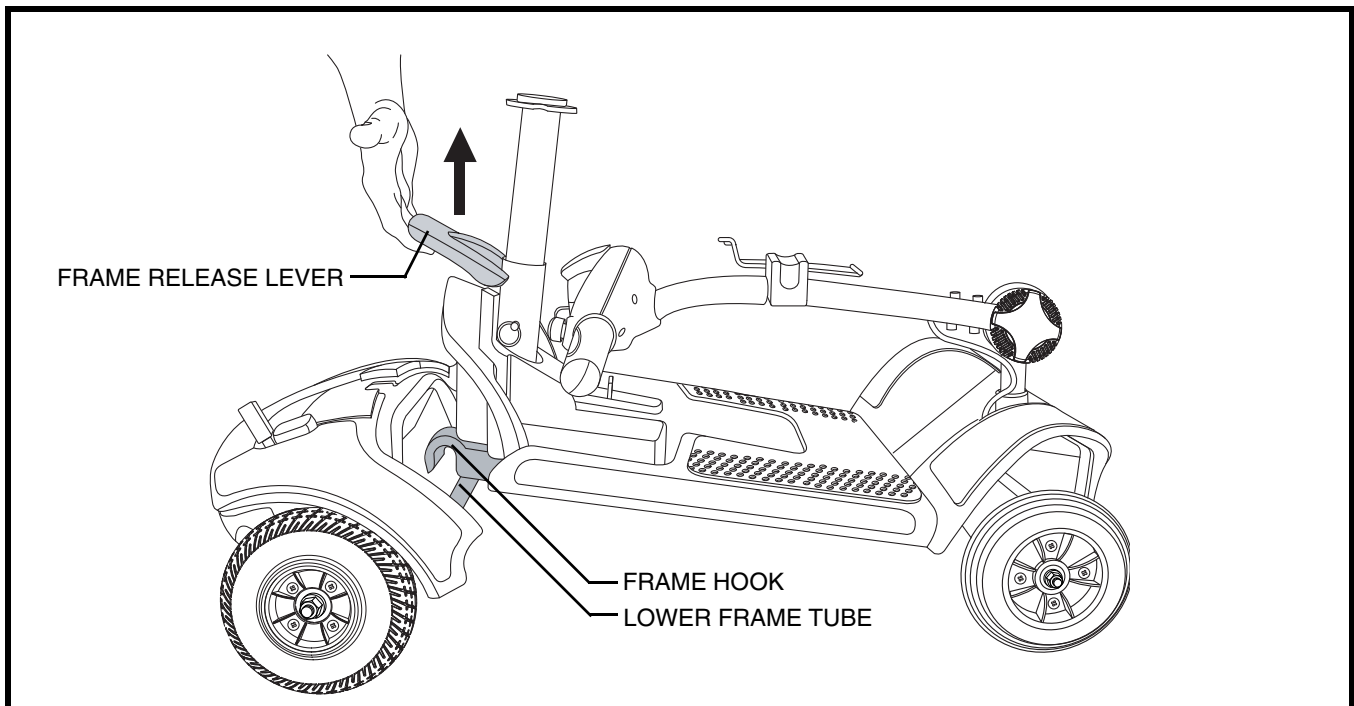

Figure 22. Frame Separation
2. Lift up on the frame release lever until the frame hooks are no longer resting on the lower frame tube. See **figure 22**.
3. Slowly separate the two sections of the Travel Scooter. See **figure 22**.
1. Use the frame release lever to lift the front section as you align the frame hooks of the front section with the lower frame tube of the rear section. **See figure 22.**